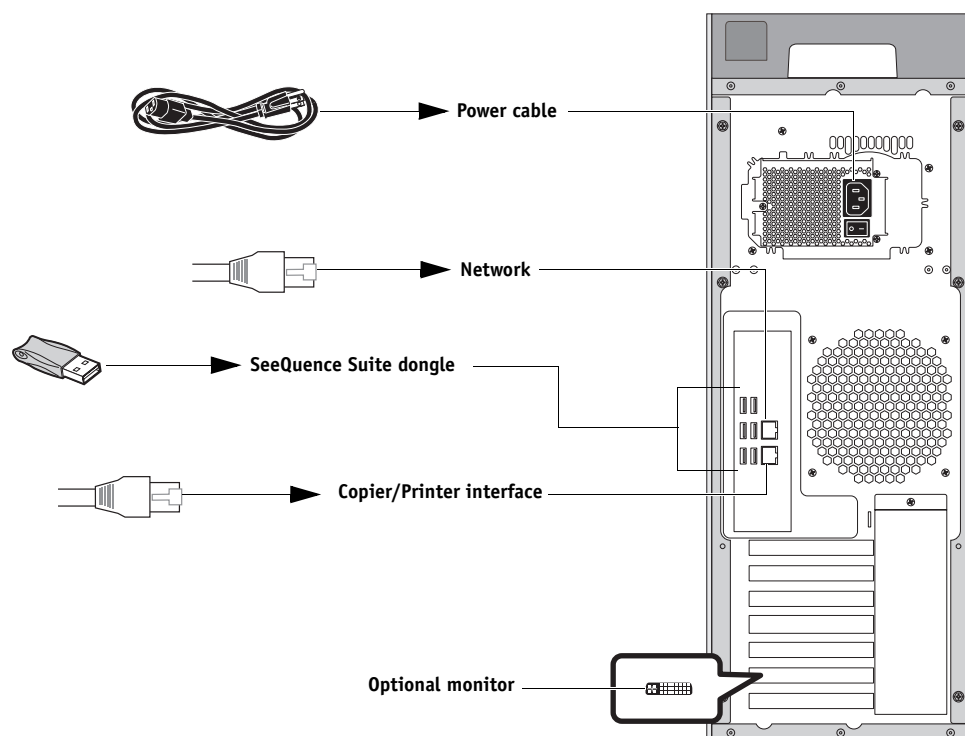

FIGURE 6: E-81 connections
1. **Connect the recessed end of the E-81 power cable to the power connector on the back of the E-81, as shown in Figure 6 on page 35. Connect the other end of the cable to a wall outlet.**
2. **To use the SeeQuence Suite features of Command WorkStation on the E-81, install the SeeQuence Suite dongle directly on one of the E-81 USB ports (see Figure 6 on page 35).**
3. Connect one end of the network cable to the network connector on the back of the E-81 (see Figure 6 on page 35).